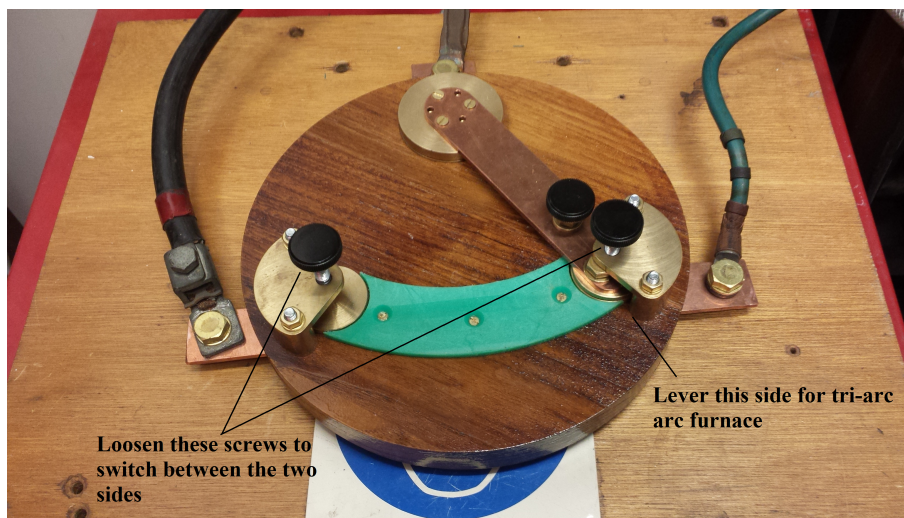

Figure 4: lever to determine which arc furnace is supplied with power (Left for single arc arc furnace and right for tri-arc arc furnace).
**Step 2:** The welding power supply is connected to both arc furnaces, so a switch is used to choose which arc furnace is supplied with power (fig. 4). To power the tri-arc arc furnace the lever has to be on the right (as indicated in the figure). To switch between the two loosen the screw, slide the lever to the correct side and tighten the appropriate screw.